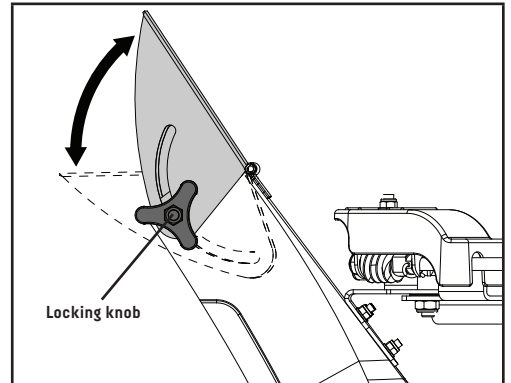

Figure 18
1. Loosen the locking knob to adjust the snow discharge deflector to a suitable height (Fig. 18).